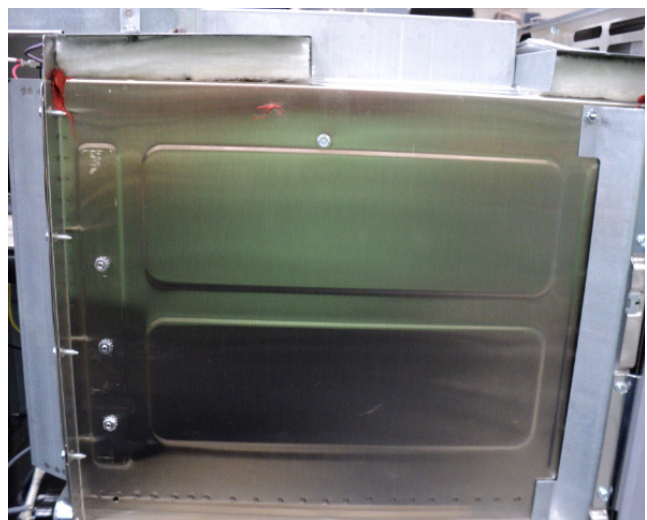

Figure 14
16. Remove insulation retainer and insulation (Figure 14).